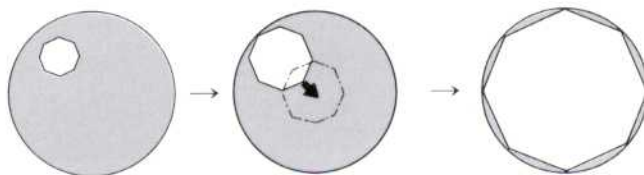

Fig. 1
- 5) Widening the diameter of the field iris diaphragm progressively, manipulate the condenser centering knobs to bring the diaphragm image into the center of the field of view. (Fig. 1) When the polygonal image of the iris diaphragm becomes inscribed in the field, slightly increase the diameter of the field iris diaphragm until it is just outside the field of view.